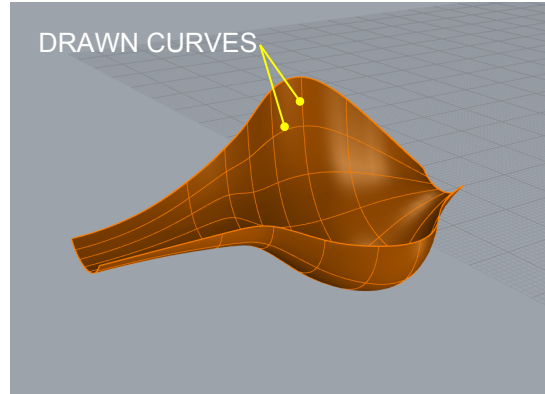

FIG. 1
- Drew a series of curves to get the general shape of the chair, sized and scaled as needed. Lofted curves (I did this for both top and bottom “shells”) **FIGS. 1 AND 2**